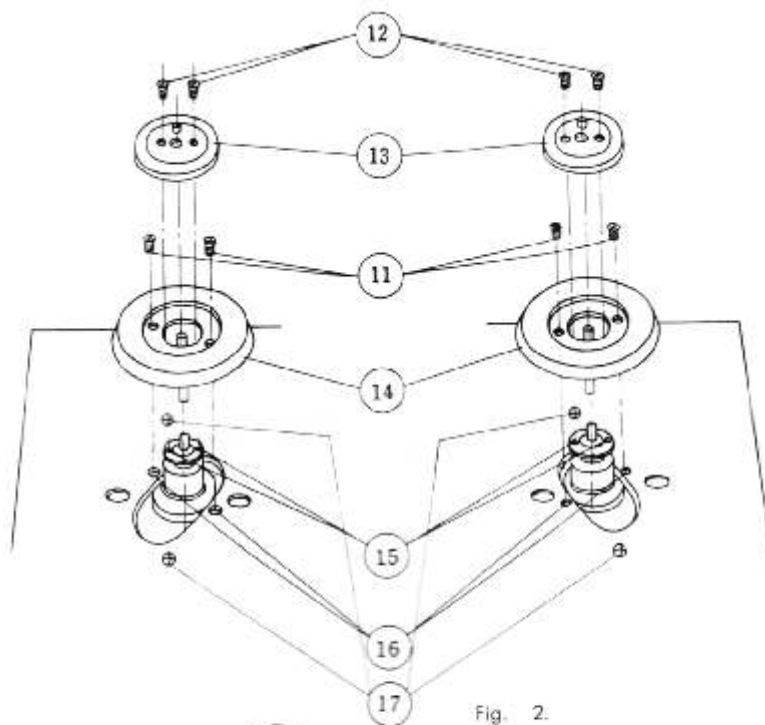

Fig. 2.
## 2. Preparation : (Refer to Fig. 2.)
Set the Reel Adapter Arm in Holes (17) shown in Fig. 2 using Motor set screws (17). By using reel table set screws (12) previously removed in Fig. 2, 7" reel table with groove for Belt (5) mentioned in Fig. 1 of "Accessories" shall be put in holes (15) of Fig. 2 and be tightened.